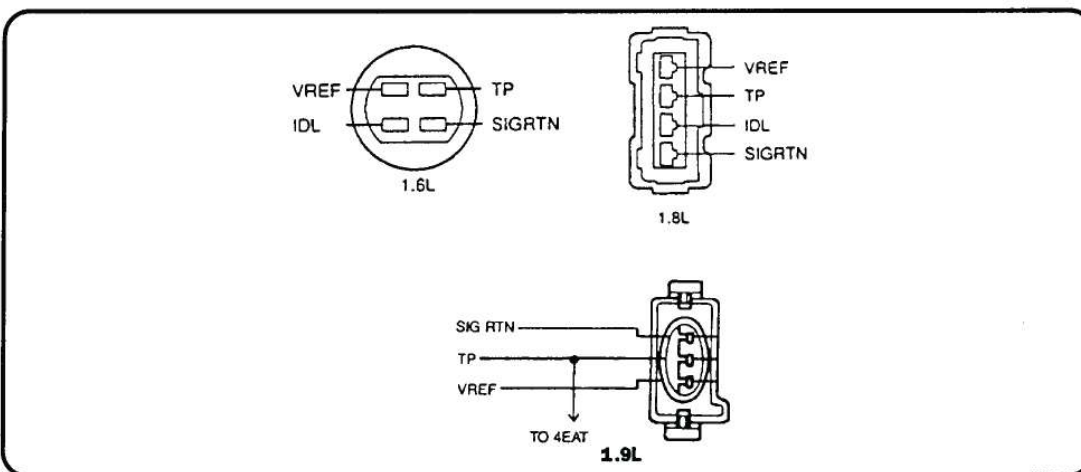

Figure 69
The TPS receives a 5 volt signal and can be checked using a multimeter. Figure 69 shows the TPS used on 1.6, 1.8 and 1.9 liter engines with pin identification. To check for voltage values set the multimeter to DC volts. Carefully back probe the Throttle Position wire (TP) with the positive lead from the meter. Using the negative lead, carefully back probe the signal return wire (SIGRTN). Turn the key to the on position with the engine off. Refer to the chart for the voltage values following figure 69. To check the TPS for resistance values, set the multimeter to ohms. Put the key in the off position and unplug the TPS. Connect the positive lead of the meter to the TP pin and the negative lead to the SIGRTN pin on the TPS. Refer to the chart following figure 69 for the resistance values.